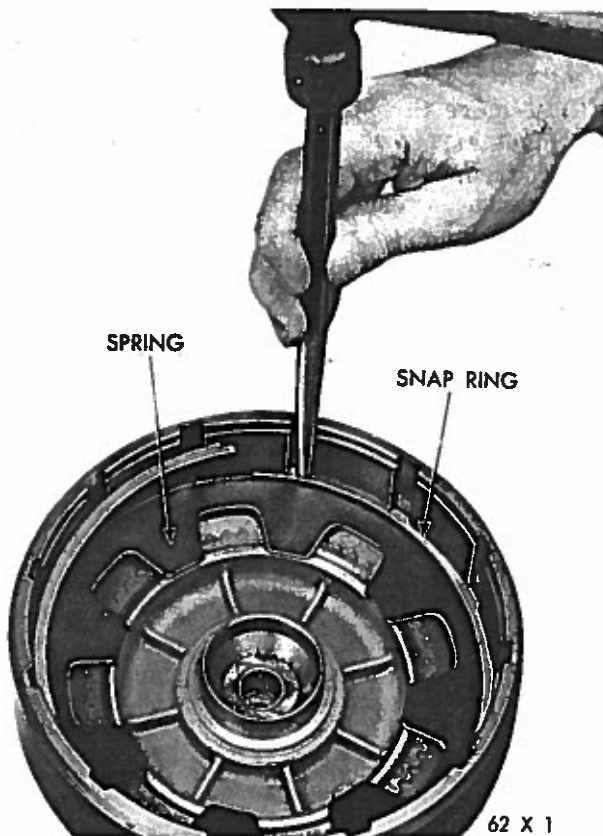
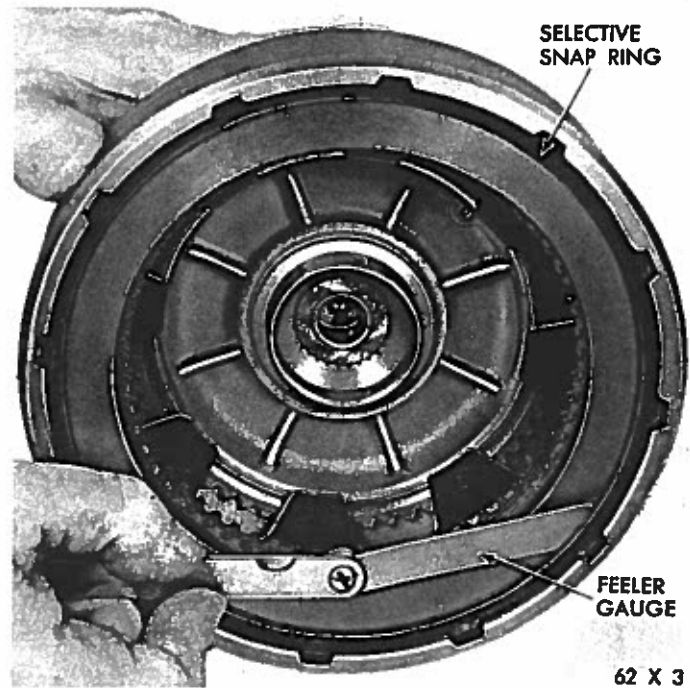

Fig. 64—Installing Rear Clutch Spring and Snap Ring
Fig. 65—Checking Rear Clutch Plate Clearance
(3) Place piston assembly in retainer and, with a twisting motion, seat piston in bottom of retainer.
(4) Position the clutch retainer over the piston retainer splines and support the assembly so the clutch retainer remains in place.
(5) Place spring over piston with outer edge of spring positioned below snap ring groove. Start one end of snap ring in the groove, make sure the spring is exactly centered on the piston, then progressively tap snap ring into the groove. (Fig. 64). Be sure the snap ring is fully seated in the groove.
(6) Install inner pressure plate in clutch retainer with raised portion of plate resting on the spring.
(7) Lubricate all clutch plates, install one lined plate followed by a steel plate until all plates are installed. Install outer pressure plate and snap ring.
(8) With rear clutch completely assembled, insert feeler gauge between pressure plate and snap ring (Fig. 65). The clearance should be .022-.042 inch for the three-disc clutch and .026-.054 inch for the four-disc clutch. If not, install a snap ring of proper thickness to obtain the specified clearance. Low limit clearances are desirable.